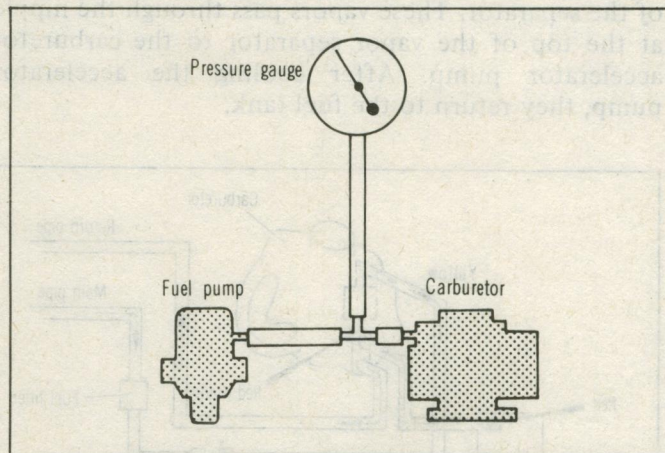

Fig. 11 Pressure Testing of Fuel Pump
(1) Insert a "T" fitting in fuel line at carburetor (Fig. 11).
(2) Connect a 150 mm (6 in.) in length of hose between "T" fitting and gauge. On vehicles with fuel return system, plug the hose to prevent returning fuel to tank.
(3) Vent pump for a few seconds (this relieves air trapped in fuel chamber). If this is not done, pump will not operate at full capacity and low pressure reading will result.
(4) Connect a tachometer, then start engine and run at idle. The reading should be as shown in specifications (depending on pump) and remain constant or return to zero slowly when engine is stopped. An instant drop to zero indicates a leaky outlet valve. If pressure is too low a weak diaphragm main spring, or improper assembly of diaphragm may be the cause. If pressure is too high, main spring is too strong or the air vent is plugged.